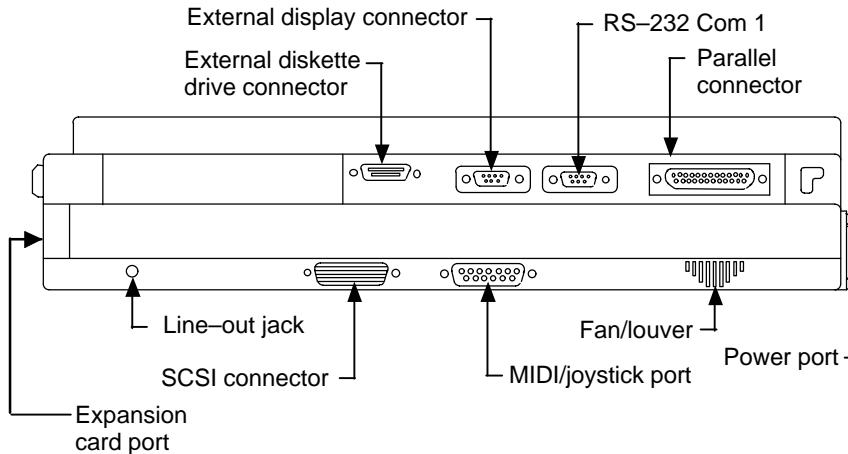

Figure 12–2.– Printer (top view/back view), PGSC (parallel port).
- Printer 4. Printer pwr – on (see fig 12–2)
4. Raise Printer cover (see fig 12–1)